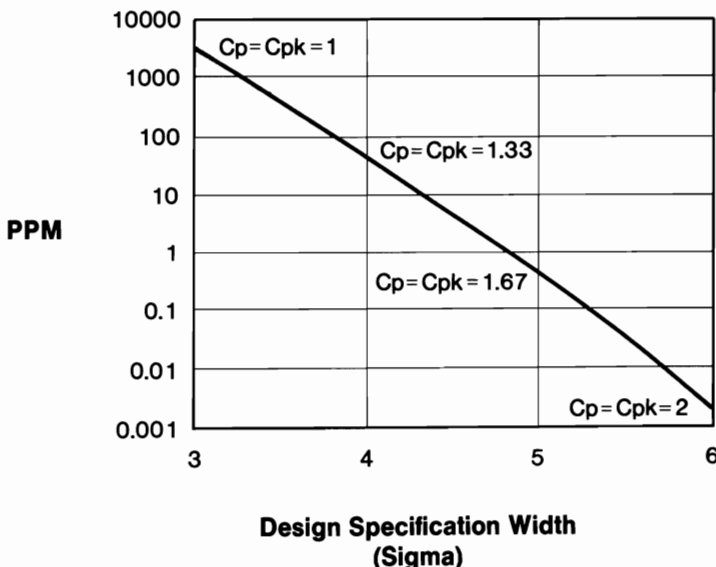

Fig. 1
2.0 is derived from the statistical definition of the process capability index or Cpk (see Fig. 1). A quality level with a Cpk of 1, or ± 3 standard deviations about the mean, reflects a defect level of 2,699 parts per million (ppm). Product with this level of quality, incorporated into another sub-assembly or module, would produce a finished system of highly suspect reliability. Currently, CSC is manufacturing at a defect level of less than 100 ppm, or very nearly a Cpk of 1.33 (± 4 standard deviations). This level of corporate quality has brought such quality recognition as Ford's Q1 award and Chrysler's Quality Excellence award, which has been gratifying and encouraging, but only as milestones on the way to the Corporate strategic objective of Cpk = 2.0 within three years. Thus the CSC 2.0 Program.